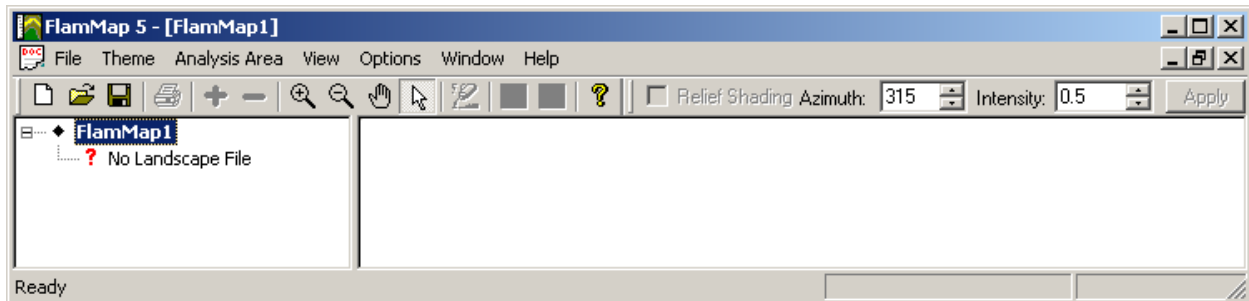

Figure 4-9—New FlamMap run window.
- 1) Open FlamMap5 (**ArcFuels10 toolbar**→**Wildfire Models**→**FlamMap**, fig. 4-9).